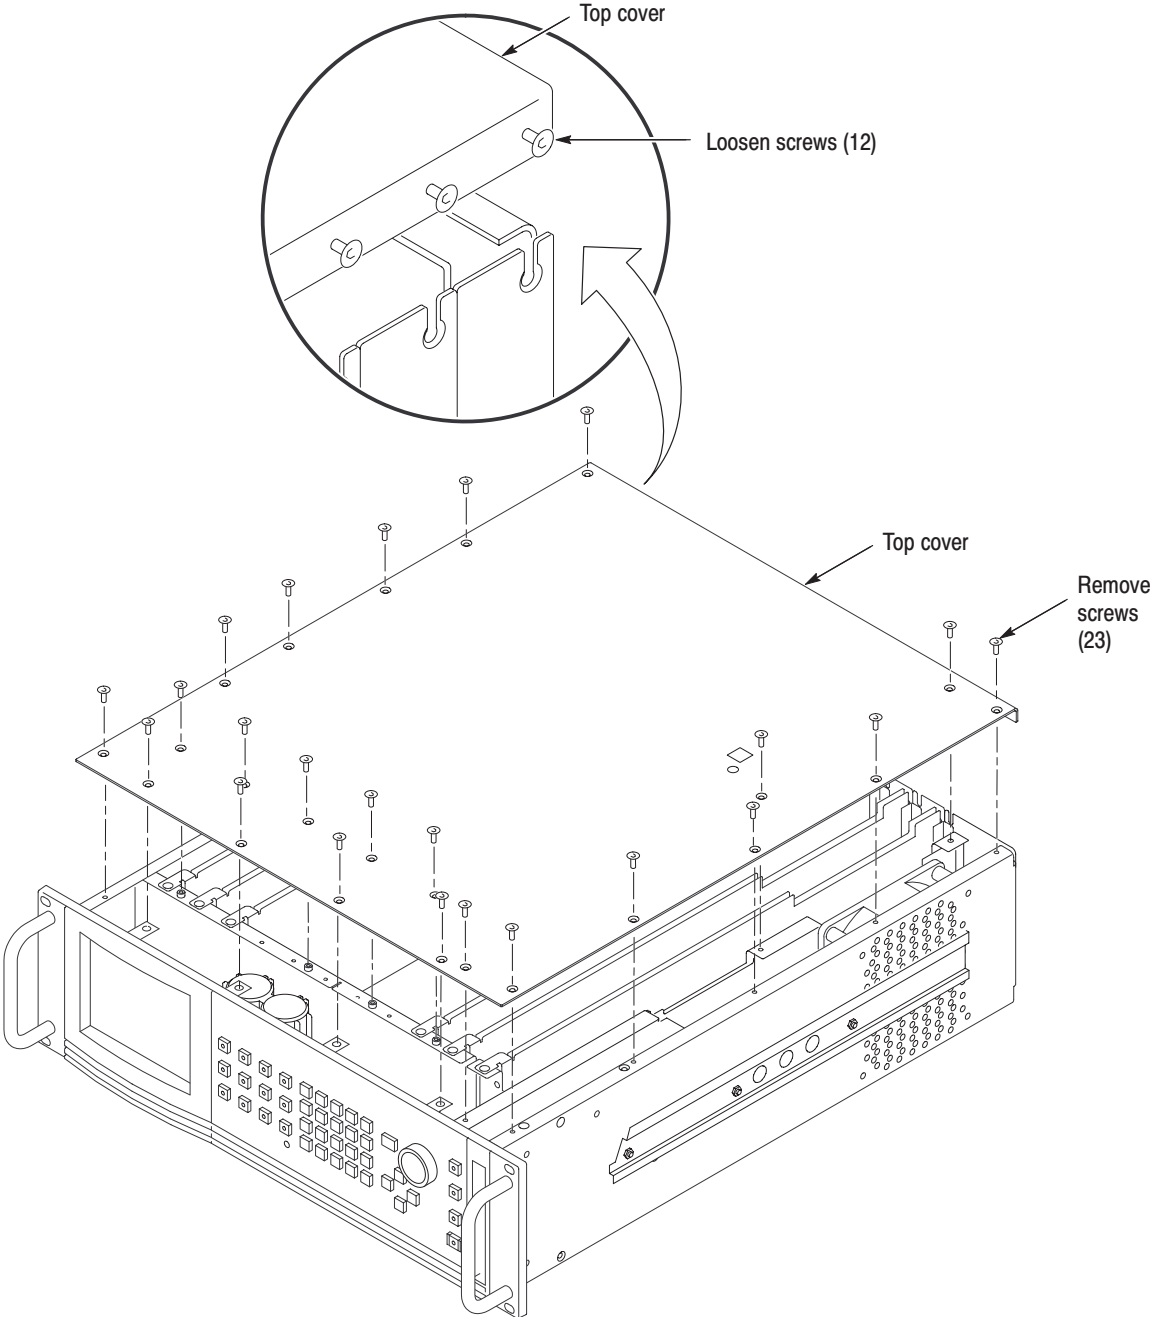

Figure C-2: Top cover removal
3. Refer to Figure C-2 and remove or loosen all screws to remove the top cover.
3. Remove all top-cover screws and remove the top cover. See Figure C-2 on page C-5.